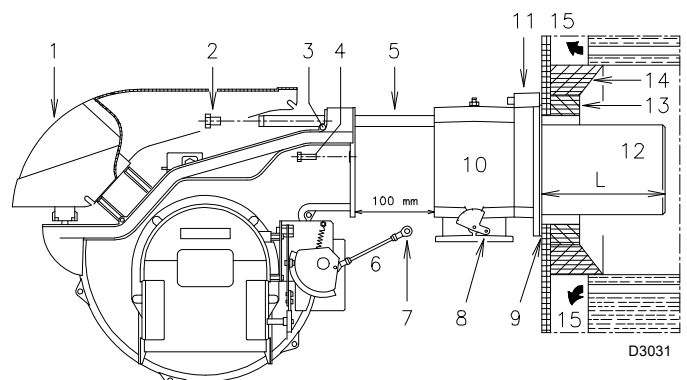

Fig. 11
For boilers with a water-cooled front piece, a refractory lining 13)-14)(Fig. 11) is not necessary, unless expressly requested by the boiler manufacturer.
- Separate the combustion head from the rest of the burner (Fig. 11):
Once this operation has been carried out, fix the flange 9)(Fig. 11 on page 17 to the boiler plate, interposing the insulating gasket 7)(Fig. 11 on page 17 supplied.